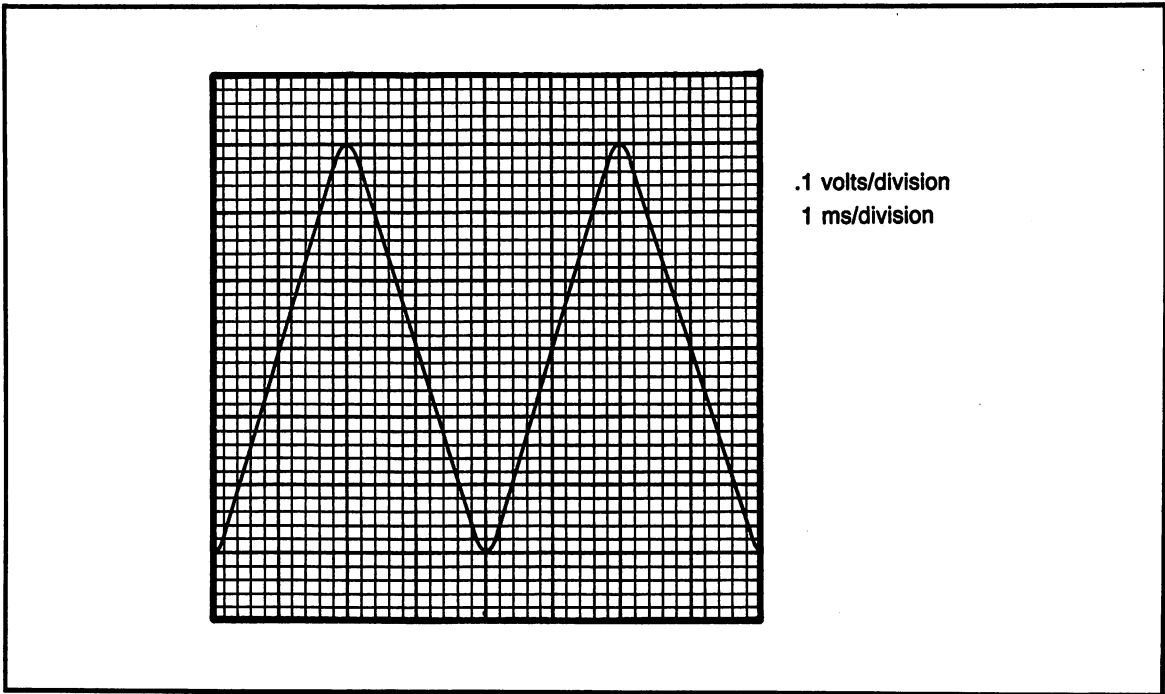

Fig. 11-15. Problem 31.
Find the frequency and peak to peak voltage of the sine waves drawn in Figs. 11-15 to 11-24. (Each answer 2 points.)
- (31) Figure 11-15; a) p-to-p voltage b) frequency